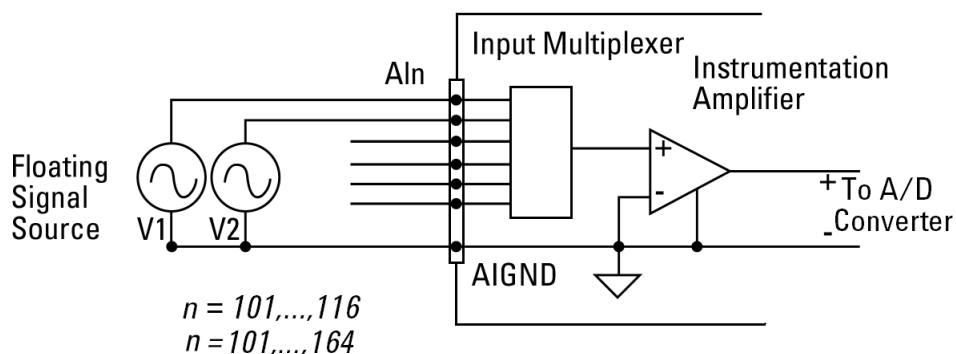

Figure 2-1 Floating source and RSE input connections
- 4 Connect the DAQ device’s analog input ground (AI_GND) to the calibrator ground. See Figure 2-1. Note that the analog inputs shown in the figure uses U2351A as an example.